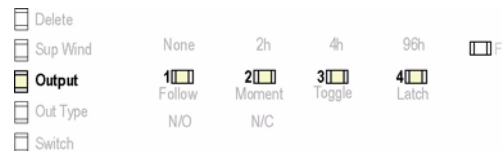

Figure 6 Select the Output Number
- Use the **Advance** button to select the output number (Fig. 6). Press **Program** to complete and advance to output type option.